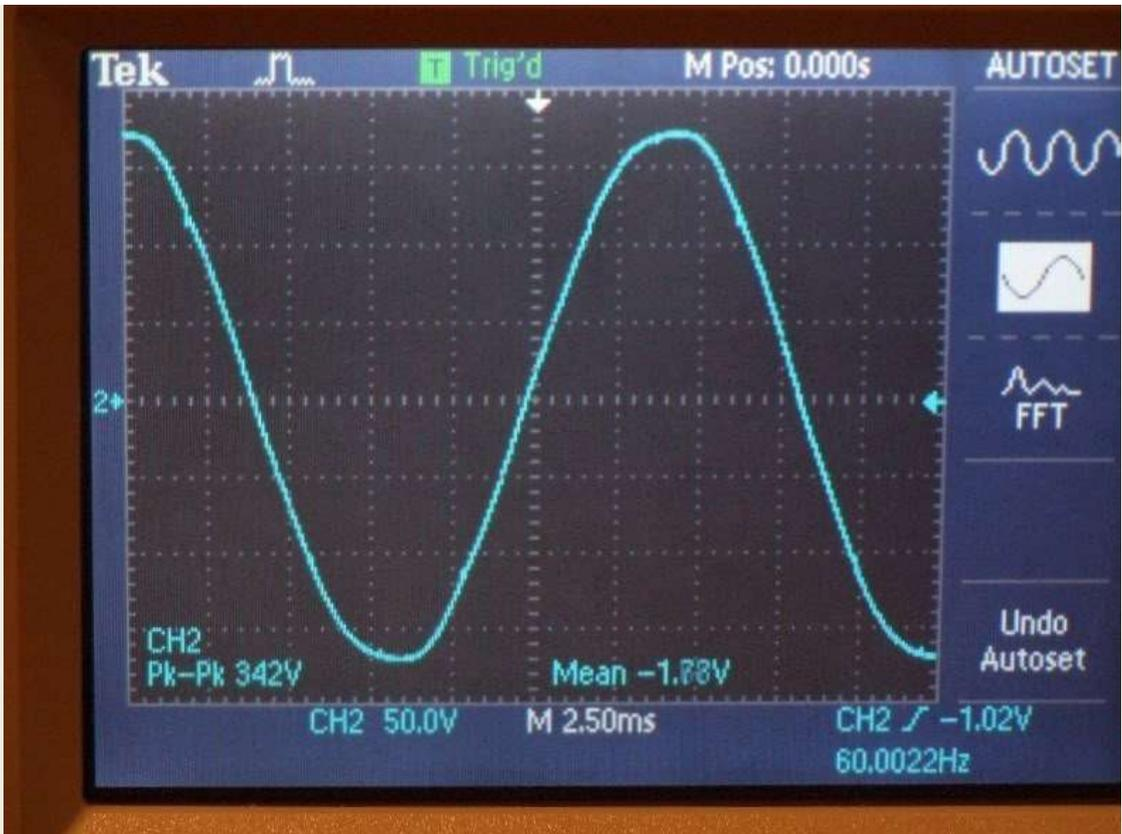
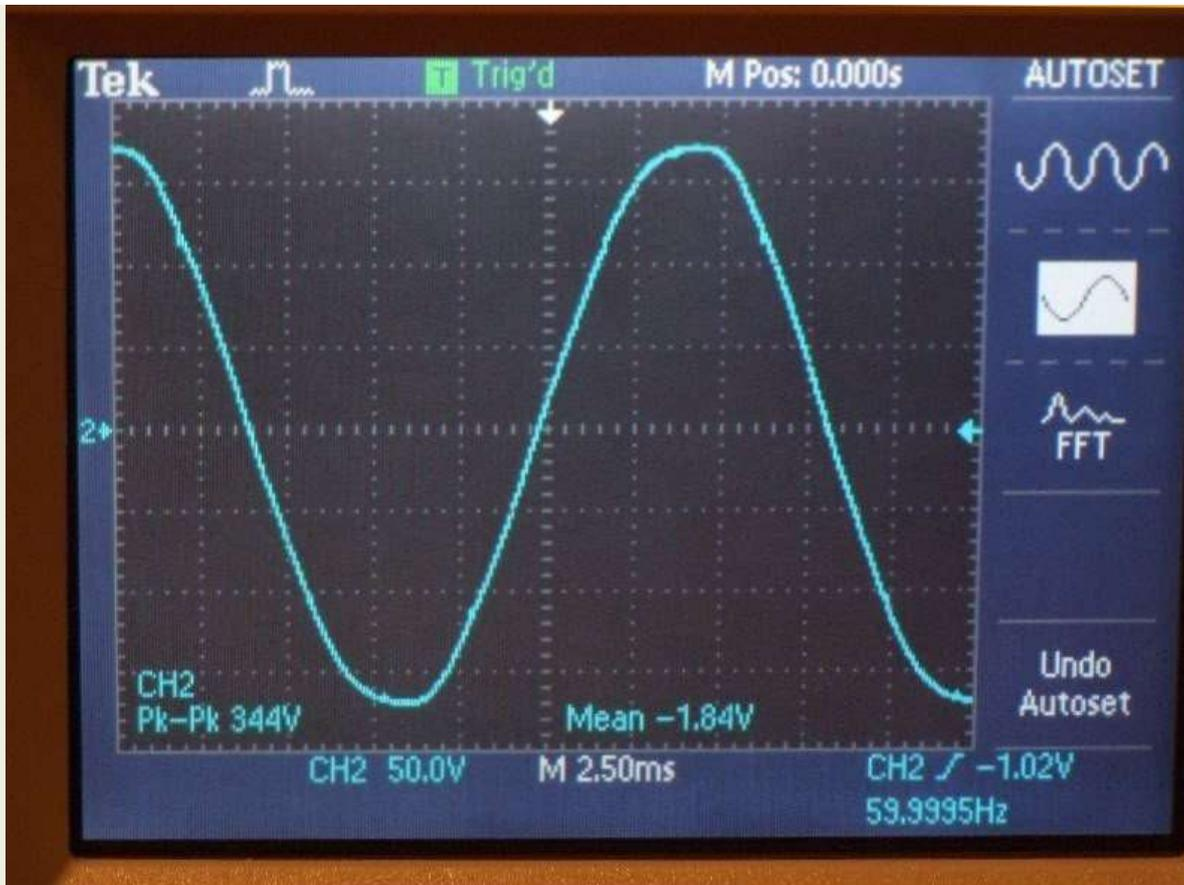
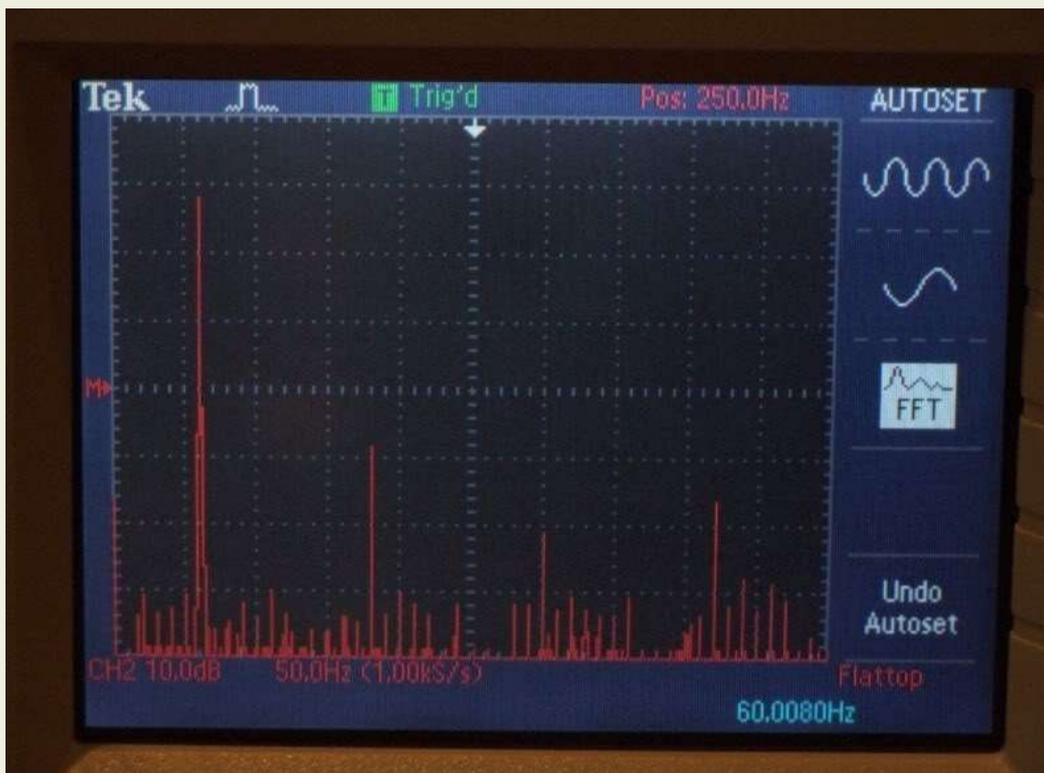
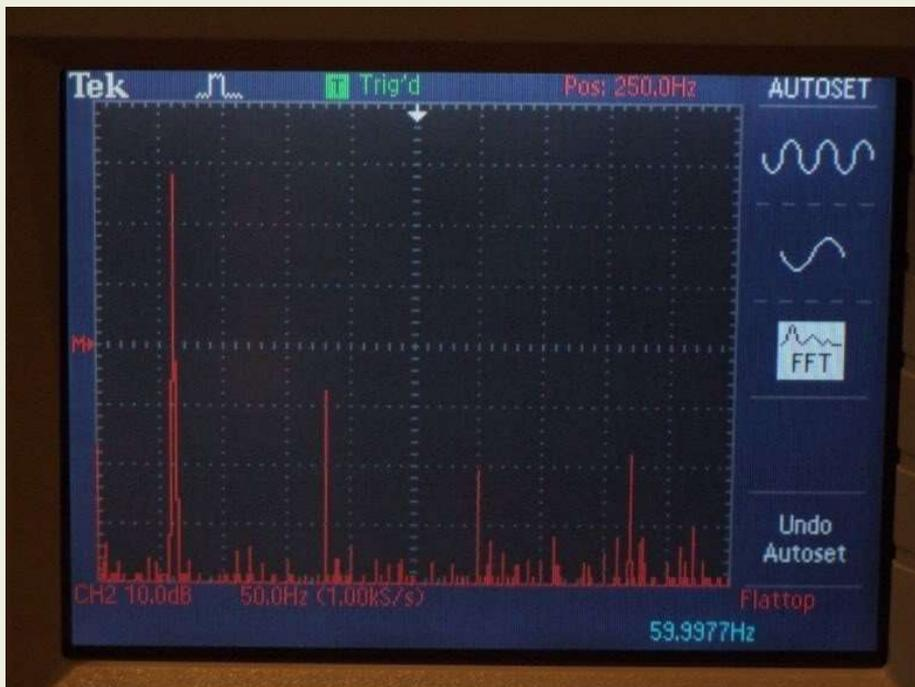

Figure 3. Sine wave plot of the power from one of the original dedicated outlets (20A circuit) with wireless networking equipment plugged in.
Figure 5. Power output from new dedicated 20A circuit terminated with a PS Audio Power Port receptacle.
Figure 4. FFT plot of the power coming from the stock JC 1 amplifier power cord.
Figure 6. FFT plot of the power coming from the PS Audio xStream Statement SC amplifier power cord.
Figure 4. Sine wave plot of the power from one of the original dedicated outlets with wireless networking equipment unplugged. Measurement was taken from a Signal Cable MagicStrip (10 AWG).
The sine waves for (1) one of the the original dedicated outlets (figure 2), (2) the Signal Cable MagicStrip (10 AWG) with wireless networking equipment plugged in (figure 3), (3) the Signal Cable MagicStrip with wireless networking equipment unplugged (figure 4), and (4) one of the new dedicated outlets terminated with a PS Audio Power Port receptacle (figure 5) are very similar, showing a fairly smooth sine waveform with a few distortion "bumps" along the waveform and some flattening near the upper and lower peaks. The primary differences were a slight variations in
The sine wave plots of the power coming from the wall socket, stock amplifier power cord, and Statement SC amplifier power cord all look virtually identical. When we look at the FFT plots, we see some differences. Compare the FFT plot of the power coming from the Statement SC power cord (figure 6) to the FFT plot of the power coming from the stock power cord (figure 4). Remember, everything except for that big 60 Hz spike on the left is **NOISE**.
Now, compare the FFT plot of the power coming from the Statement SC power cord (figure 6) to the FFT plot of the power coming from the wall (figure 2). The power coming from the Statement SC cord has less noise density at 60 Hz than the power coming from the wall.
Between the signals shown in figures 4 and 6, which would you prefer to send to your power amplifier? Some would say it does not matter. According to the conventional "wisdom", the higher noise content of the stock amplifier power cord does not matter because the amplifier's power supply filters will take care of it the way that Master Windu "took care" of Jango Fett.